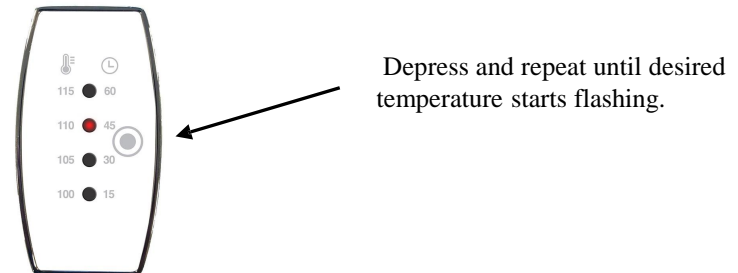

Figure 4
3. Changing Session Temperature. After the time has been selected, the red 100° LED will automatically start flashing. If this is the desired temperature, wait 4 seconds and that temperature will be accepted by the control and the generator will start. If a different temperature is desired, momentarily press the “Control Button”. Repeat until the red LED associated with your desired temperature starts flashing. Once the desired temperature is flashing, wait 4 seconds and that temperature will be accepted by the control and the generator will start. (Figure 4)